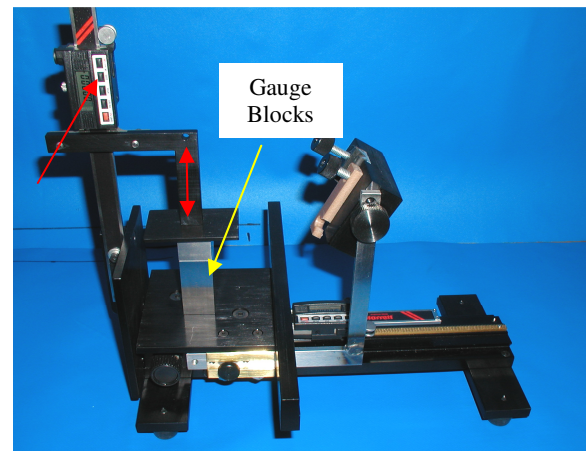

Figure 6.3.1–Calibration of the Height Measurement Using Gauge Blocks
6.3.1.2 Lower the height measurement plate until it rests on the gauge block(s), and then zero the height scale, Figure 6.3.1.